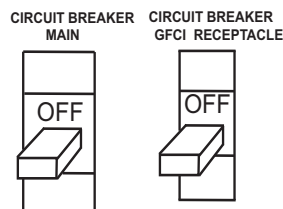

Figure 16. Main and GFCI Circuit Breakers
1. Be sure to disconnect the electrical load and switch the *main* and *G.F.C.I.* circuit breakers (Figure 16) to the "OFF" position prior to starting the engine.